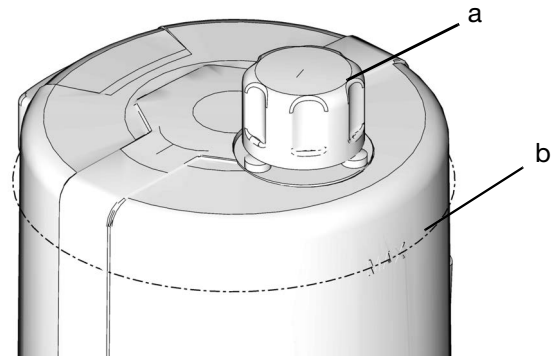

**FIG. 20:**
- a. To relieve pressure between the Refill Pump (F) and Auto-Fill Shut Off (B), open ball valve (bv) (FIG. 20). Pressure will be released and excess fluid will drain out of the drain tube (L) and into the lubrication overflow container (W).